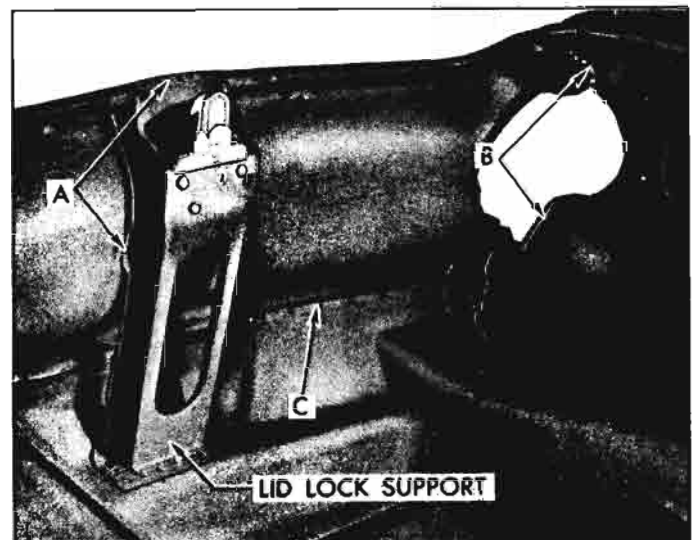

Fig. 10-13—Front End Panel Welds in Front Compartment Area (Typical)
9. Drill out spot welds securing front compartment lid lock support to front end panel assembly indicated at "A," in Figure 10-13.
10. Cut spot welds attaching front end panel assembly to front wheelhouse front panel indicated at "B," Figure 10-13.
11. Cut spot welds securing front end panel to front compartment front panel indicated at "C," Figure 10-13.